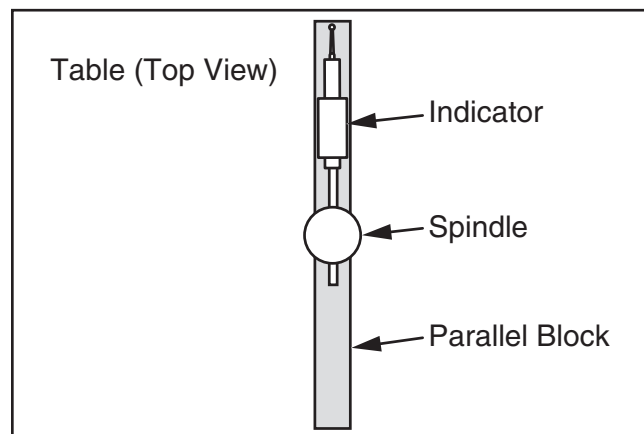

Figure 63. Parallel block and indicator positioned for the Y-axis measurement (top view).
8. Place parallel block directly under spindle and across width of table, as illustrated in **Figure 63**.
9. Rotate spindle so indicator point rests on parallel bar, as illustrated in **Figure 63**, then zero the dial.